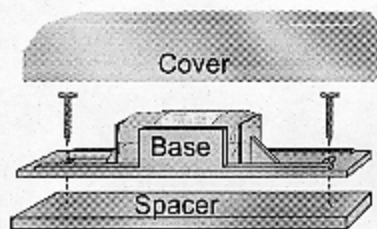

Figure 8 - The Magnet Assembly
- Mount the Magnet Base (see Figure 8) using two panhead screws.